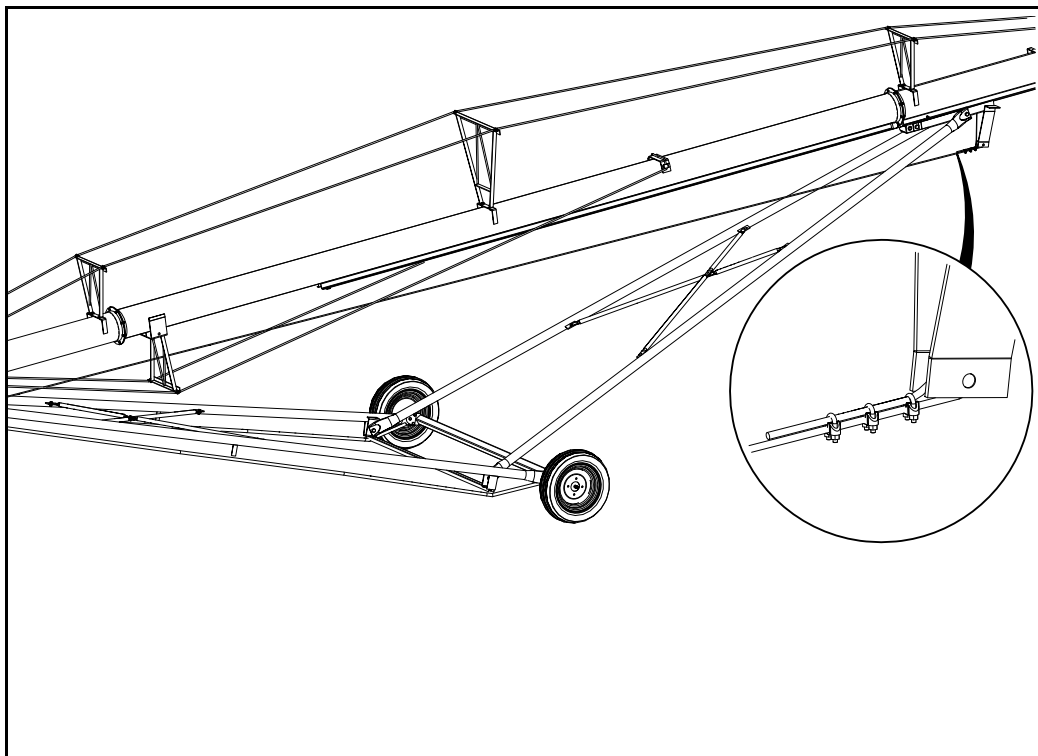

Figure 3.30 Connecting the Lift Cylinder Cable to the Lift Assist Arm
1. With the auger in full down position (track shoe resting solidly against the track stop, and the lift assist arm seated against the track), thread the cable around the cable-attach-rod on the lift assist arm. Pull cable very tight, then secure with three cable clamps positioned as shown (see Figure 3.30).